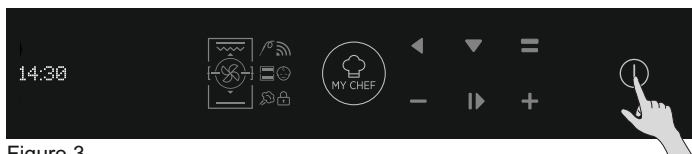

Figure 3
- At first launch you need to follow an installation process to be able to use the oven. Press ON/OFF to go ahead. (Figure 3)